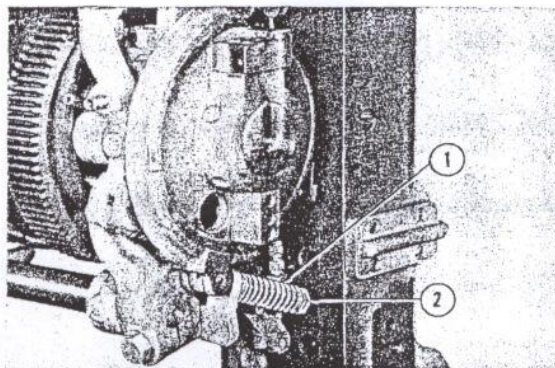

Figure 41—Cylinder Brake Adjustment
When turning cylinder by hand check that it moves with a definite drag. If cylinder moves too freely, increase brake spring (1) pressure by tightening spring adjustment nut (2). (See figure 41.)